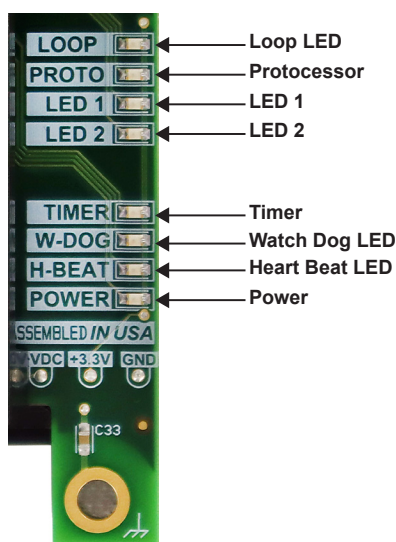

Figure 5: PT-Link LED Locations
- Visual observations of LEDs on PT-Link (**Figure 5, page 76**).
The PT-Link is equipped with LEDs that can be used for troubleshooting. There are eight LEDs on the PT-Link board. See **Figure 5, this page**, for the locations of the LEDs on the PT-Link board. The LED descriptions and functions are listed in the following paragraphs.